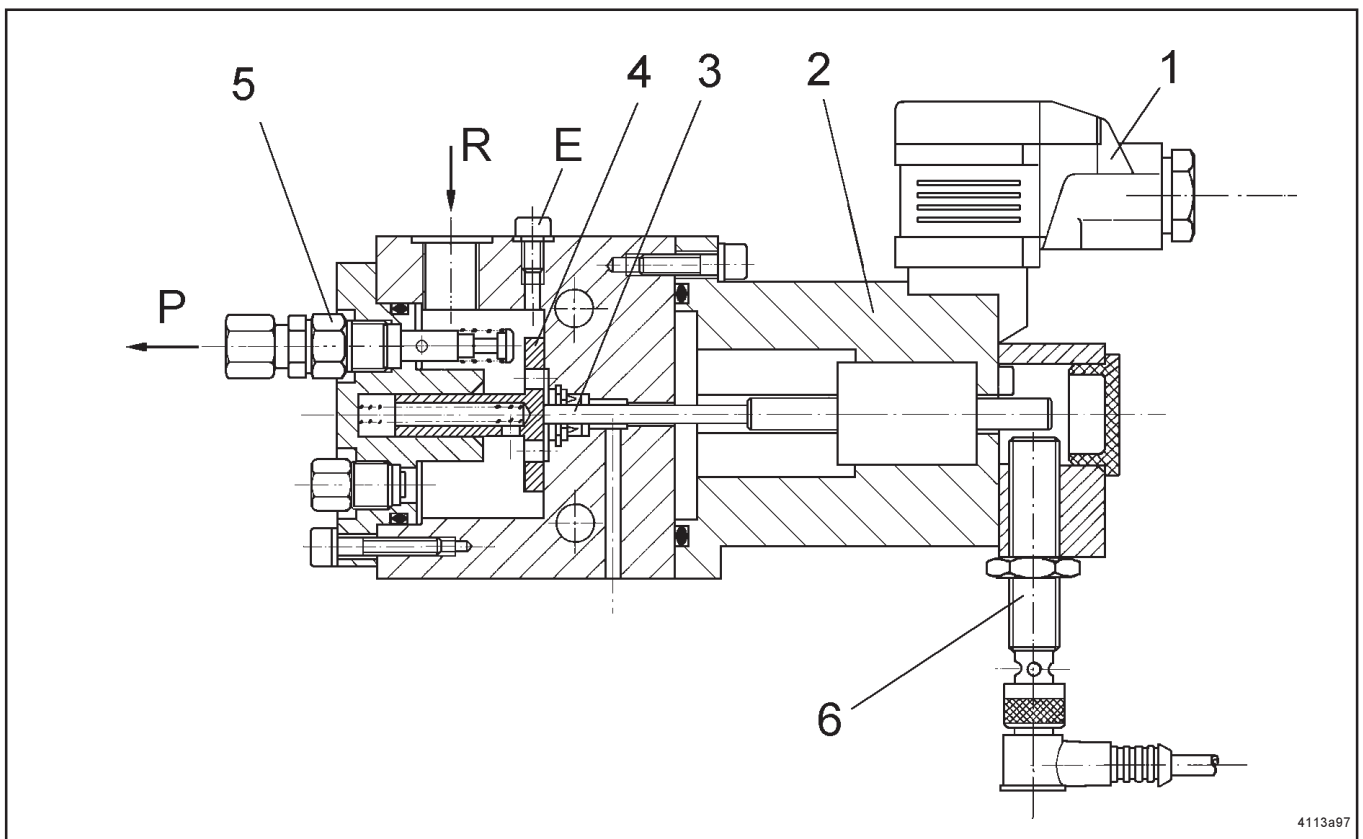

Fig. 2 - Sectional drawing of the PMA - 1 magnetic pump
- The armature of the electromagnet (2, Fig. 2) receives an electrical pulse (energizing) from the proximity switch (7 Fig. 1;). It contacts the pressure plate (4, Fig. 2) via a tappet (3). The pressure plate causes the movement of the pistons in the pump elements (5) to move.
- The pistons eject a dosed quantity of oil to the pressure connection (P). The return stroke of the pump pistons and that of the armature are spring activated. During the return stroke the pistons suck fresh oil from the storage chamber. The pump is ready for the next lubrication pulse.
- * Unscrew the venting screw (item 4, Fig. 2), until oil emerges. Then re-tighten the venting screw.